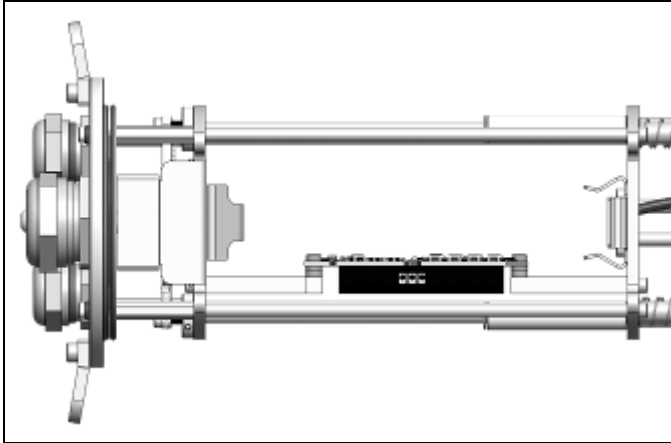

Figure 39: Mounting of the industrial PIF (top view)
5. Fix the Industrial PIF with the screws (M3x5) as shown in **Figure 39**.